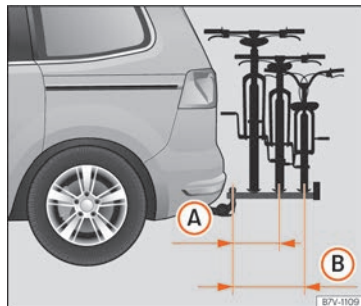

Fig. 278 Schematic representation of the maximum load overhang of a bicycle rack for two or three bicycles.
Key to » **Fig. 278**
- (A)** With up to 55 kg load capacity: 500 mm (approx. 19.7 in)
- (B)** With 75 kg load capacity: 700 mm (approx. 27.6 in)
The maximum overhang shall not exceed, in the case of two-bicycle racks, 500 mm from the centre of the ball head to the centre of the rail of the last support » **Fig. 278 (A)**. In the case of three-bicycle carriers, the maximum overhang shall not exceed 700 mm » **Fig. 278 (B)**.